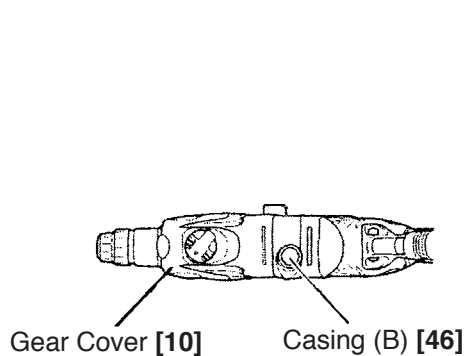
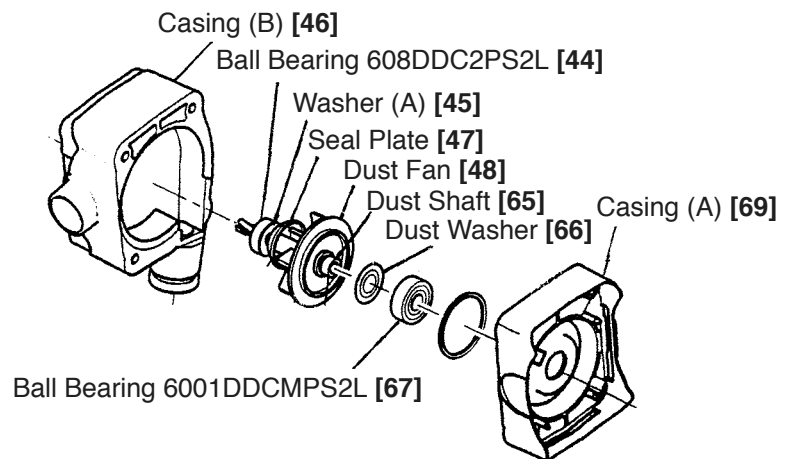

Fig. 12
Fig. 13
(1) Disassembly of the dust collection mechanism: Refer to Fig. 12 and Fig. 13.
Disassemble the Rubber Cap [97] and the Nozzle Seal [96] from the nozzle portion, and remove the screw that fastens nozzle (A) and nozzle (B). While pressing the claw head of nozzle (B) in the direction indicated by arrow "A" in Fig. 13, insert the tip of a thin flat-blade screwdriver between the surfaces in front of the claw-connected portion and pry up gently to disengage the claw so that nozzle (A) and nozzle (B) can be removed from pipe (A). Next, take the stopper off from pipe (A), and remove the O-ring from the tail cap side so that the tail cap can be removed from pipe (B). Pipe (A) can then be taken out from pipe (B) by enlarging its split section after removing the retaining wing bolt.